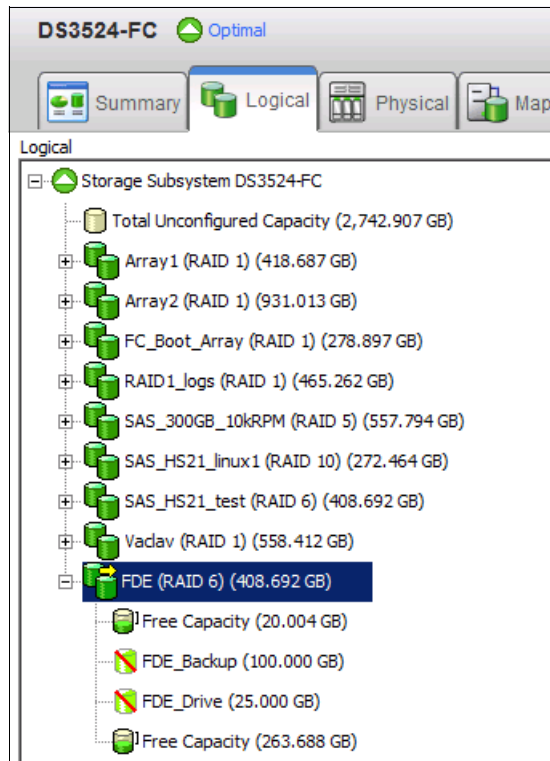

Figure 15-27 Degraded Status of the array
5. During execution of the export command the array shows an degraded status as shown in Figure 15-27 on page 464